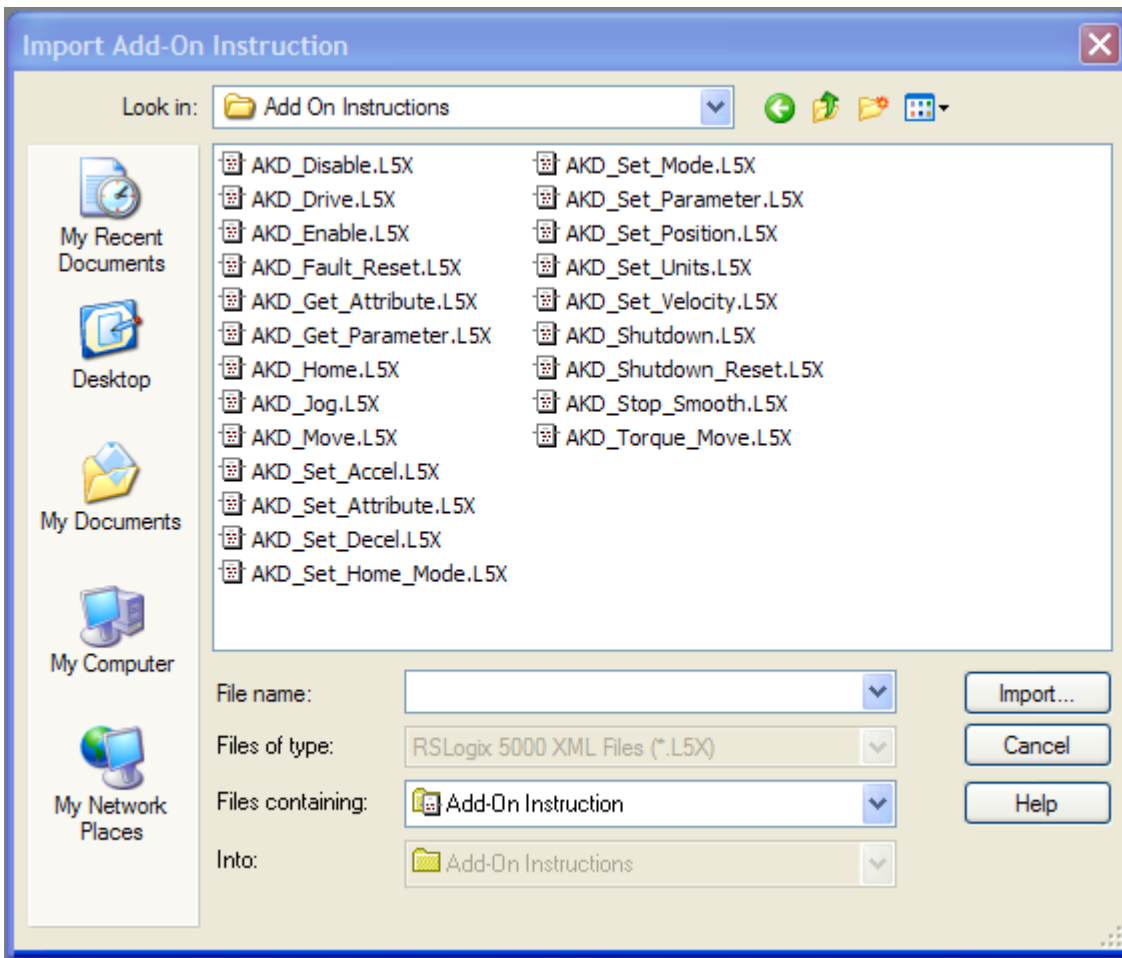

Figure 5-10: Selecting an AIO
- Browse to the location of the AKD Add On Instruction library and select the desired AOI then click “Import...” (Figure 5-10: Selecting an AOI)